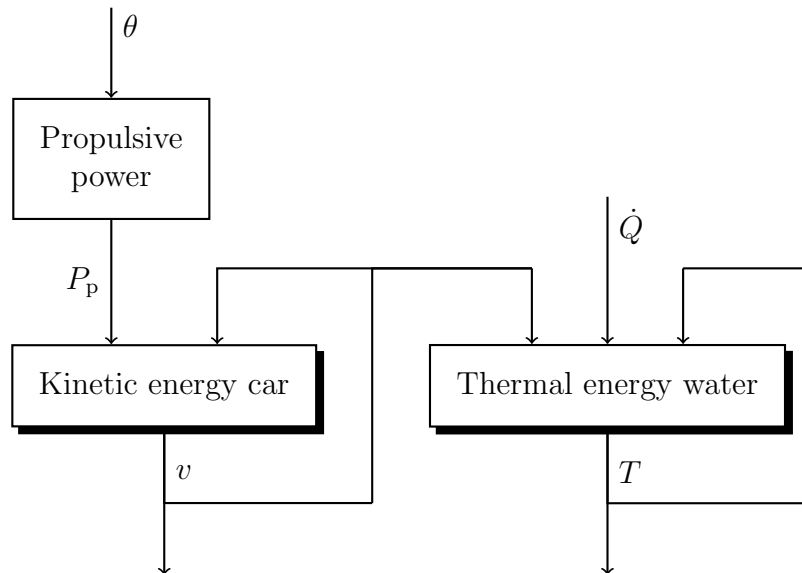

Figure 4: Causality diagram of the system.
3. The causality diagram is shown in Figure 4.